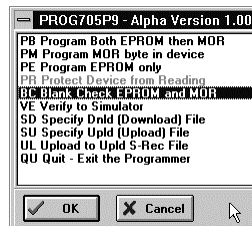

Figure 6-21. PROG05P9 Programmer Pick Window
- **Pick Window:** The Pick Window (Figure 6-21) displays all programming actions and functions for you to select.